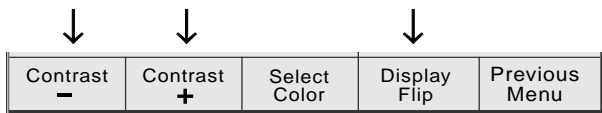

Figure 3-6. Display menu
- Display the Display menu with **F4** Display (Figure 3-6).